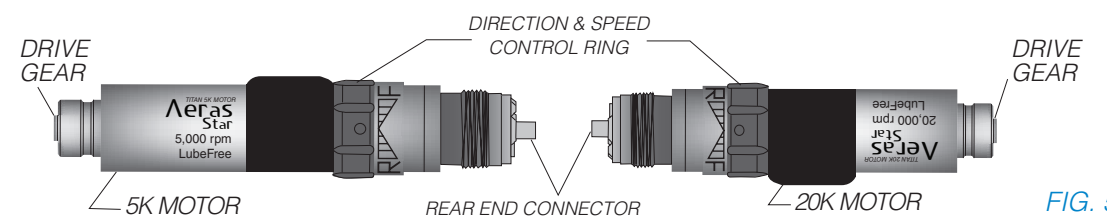

FIG. 5
- Examine rear end connector of motor. (Fig. 5) Verify motor matches tubing connector of delivery system.